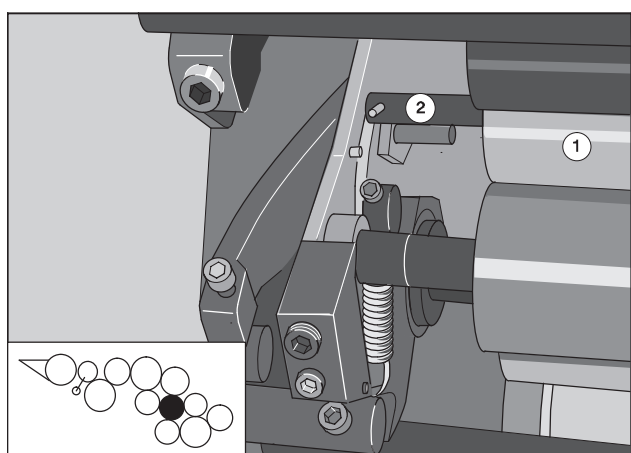

Fig. 19 Removing the 3rd ink transfer roller
1. Grasp the 3rd ink transfer roller (Fig. 19/1) at the roller shafts (Fig. 19/2) and pull out of the bearing unit.